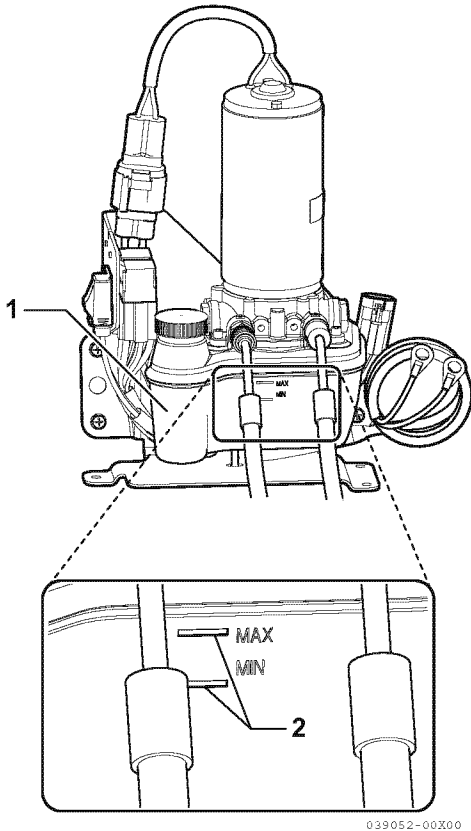

Figure 4
2. Observe the oil level in the reservoir. The oil level should be maintained within the MIN and MAX lines (2, **Figure 4**) on the reservoir (1, **Figure 4**).